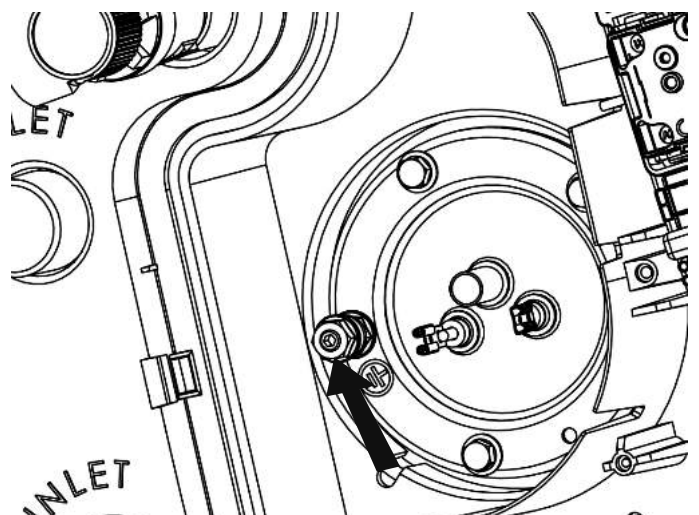

Figure 12: Earth Post
- ▶ Using an appropriate 'tested' ESD wrist strap with a crocodile clip at the opposite end of the lead to the wrist strap, connect the crocodile clip onto the earth point on the immersion heater (see Figure 12, page 26).